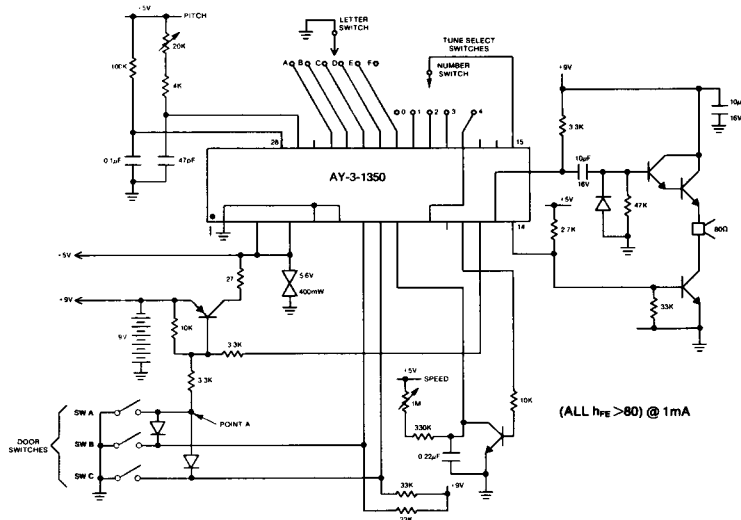
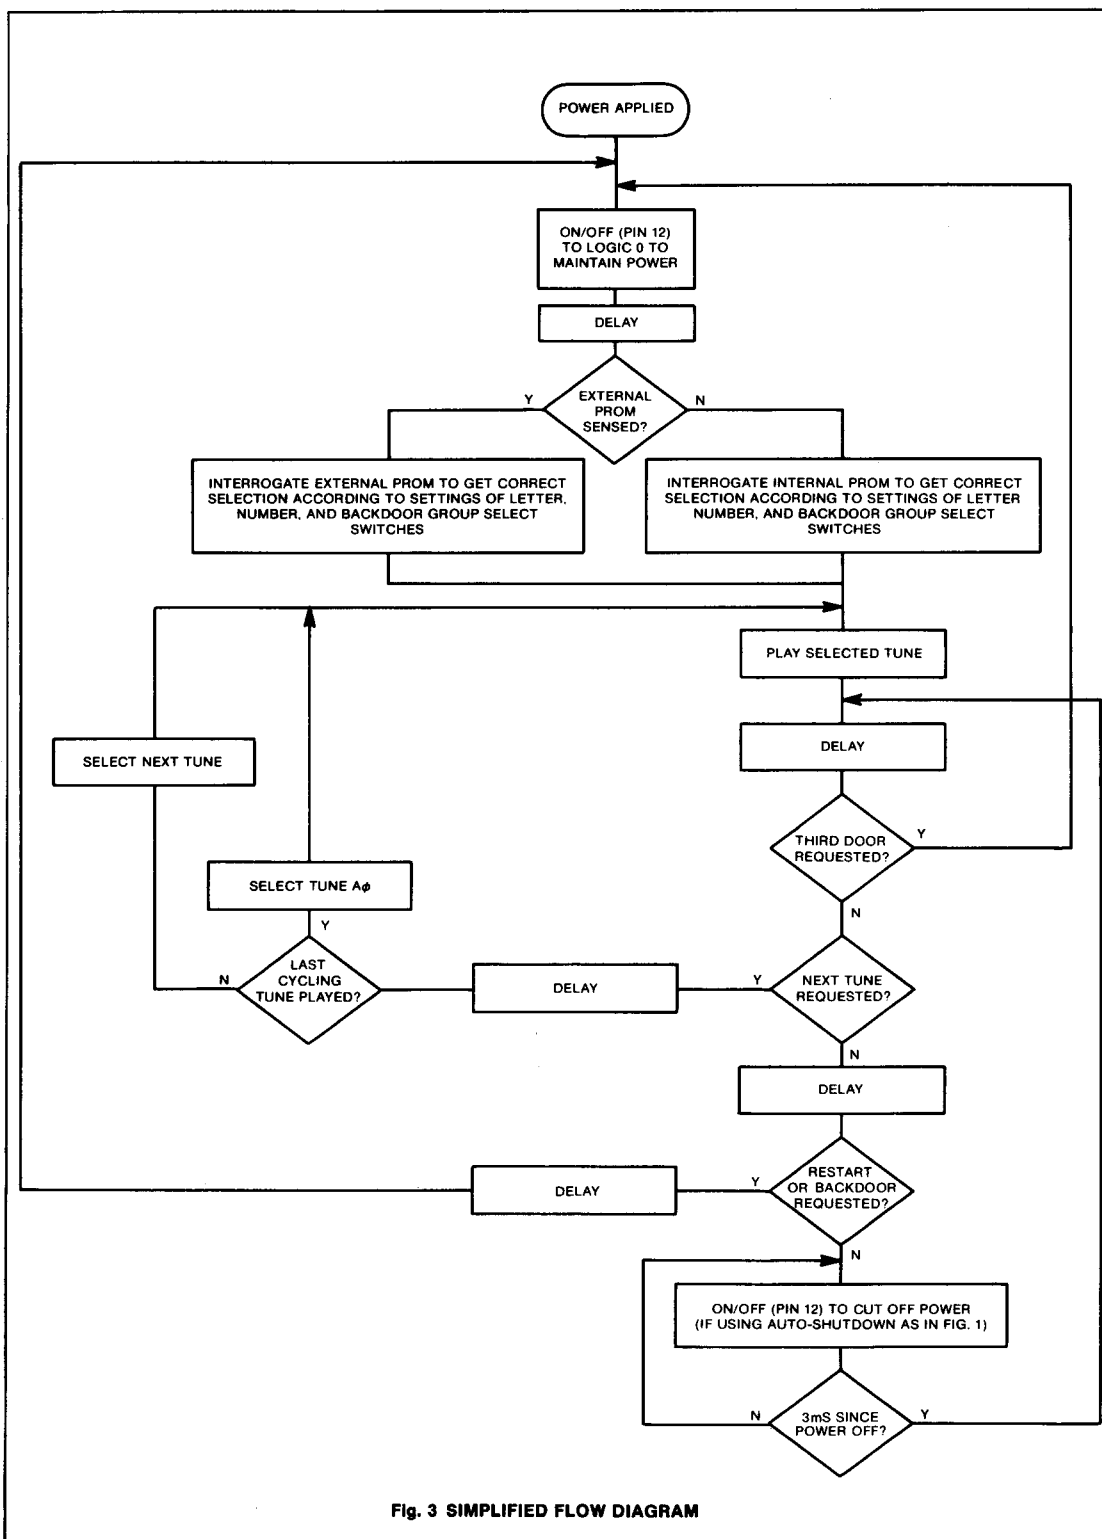

Fig. 1 SYSTEM DIAGRAM
Fig. 3 SIMPLIFIED FLOW DIAGRAM
There are many ways to connect the standard device depending on the exact application. Figure 1 shows just one implementation of the device in a doorchime. This circuit gives access to all 25 tunes from switch A and one of 5 tunes from switch C as well as the descending active chime from switch B. The tune selected for switch B follows the tunes list according to the setting of the two tune select switches (A—E and 0—4). The tune selected from switch C in Figure 1 is one of the five tunes A0 through E0 depending on the setting of the letter switch. For example, with the letter switch set at E and the number switch set at 4, the tunes available will be:
There is virtually no power consumption in the standby condition (external transistor leakages only). When any door switch is activated the circuit powers up, plays a tune, and then automatically powers down again to conserve the battery, even if the operator keeps his finger on the switch to the end of the tune. He must release it and re-press to play again with the circuit in Figure 1. Activating any of the door switches will pull point A to ground
Figure 1 shows only a typical one-chip implementation. Further options come from use of different switching and/or from use of the next tune facilities built into the chip. These will now be considered in turn.
In Figure 1 the Switch C Group Select pin (16) is not connected, and one of the five tunes (A0 through E0) will play if switch C is activated. Other number groups can be chosen by connecting the Switch C Group Select pin as follows:
Using the power-up circuit of Figure 1, the AY-3-1350 will have +5V applied and be latched within a few microseconds (dependant upon external components) from any bell-push closing. The device starts to operate when the RESET pin reaches logic 1 (about 10ms with components shown) but in fact the tune select switches are not interrogated until approximately 6ms later. The total is sufficient for most bell-pushes to complete any bounce period and for a firm selection of tunes to be made.
At the end of tune play the circuit of Figure 1 powers down because ON/OFF (pin 12) is raised to a logic 1. This simplified flow diagram in Figure 3 shows that before the power down there is a test for connection between NEXT TUNE (pin 10) then RESTART (pin 17) with TUNeselect 4 (pin 9). At this time NEXT TUNE (pin 10) then RESTART (pin 17), which are normally at logic 1, output a logic 0. This is looked for at input TUNeselect 4 (pin 9). If neither is found the power down system is reached as in Figure 1.
A RESTART (pin 17) — TUNeselect 4 (pin 9) connection at the moment of test at the end of a tune causes the same selected tune to be played again. Figure 3 shows that in this case the tunesensing mechanism is passed through once more so the tune would be different the second time if the switches were altered while the first tune was playing.